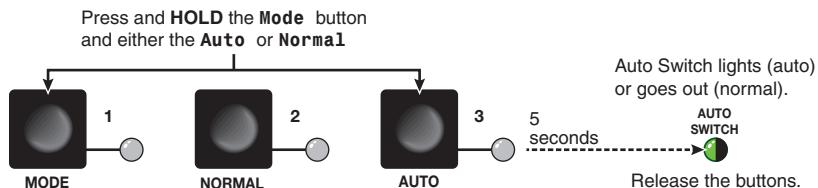

Figure 10. Selecting a Mode
1. Press and **hold** the **Mode** (Input 1) button and the button for the desired mode for approximately 5 seconds (see figure 10):